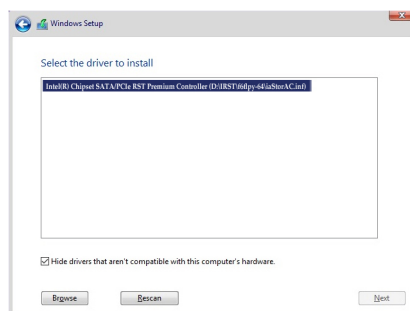

Figure 1
When a screen as shown in Figure 1 appears, select **Intel(R) Chipset SATA/PCIe RST Premium Controller** and click **Next** to load the driver and continue the OS installation.